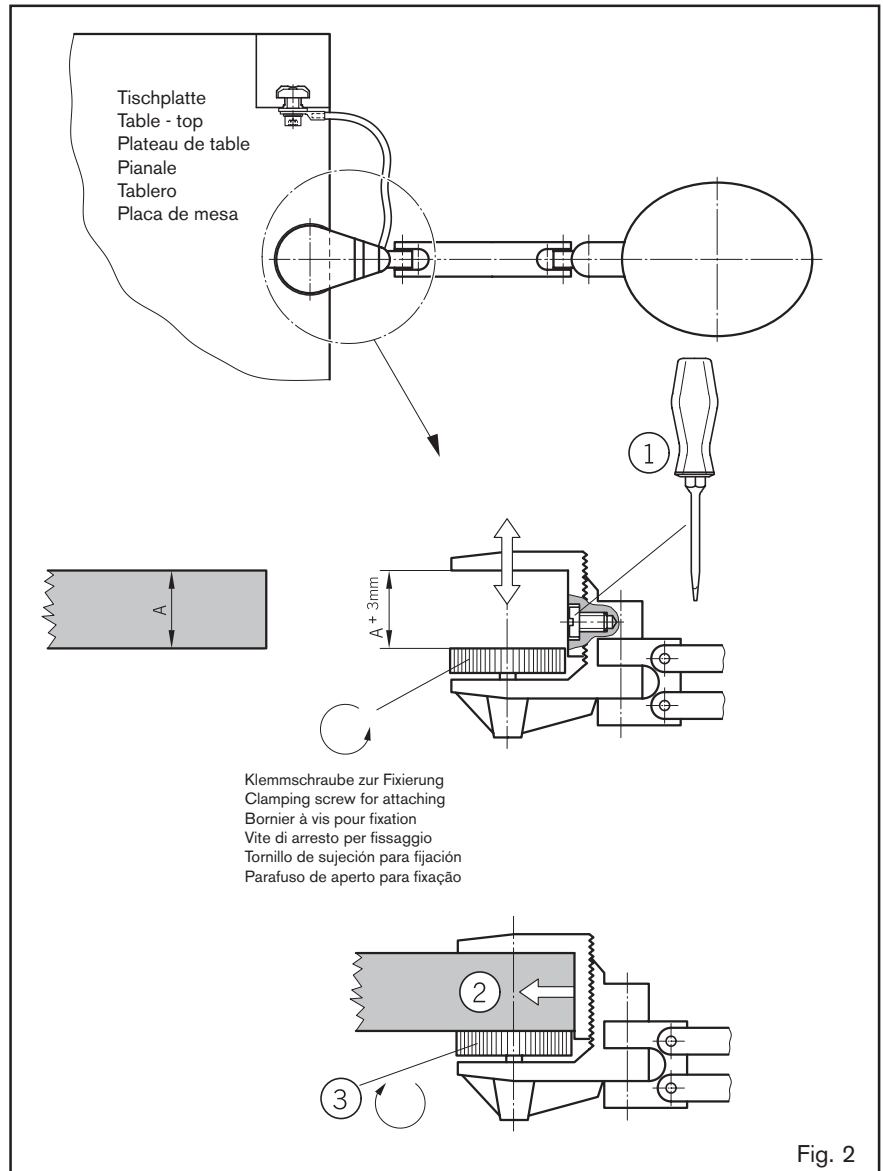

Fig. 2
■ **Montage (Fig. 2)**
Assembly (Fig. 2)
Montage (Fig. 2)
Montaggio (Fig.2)
Montaje (Fig. 2)
Montagem (Fig 2)